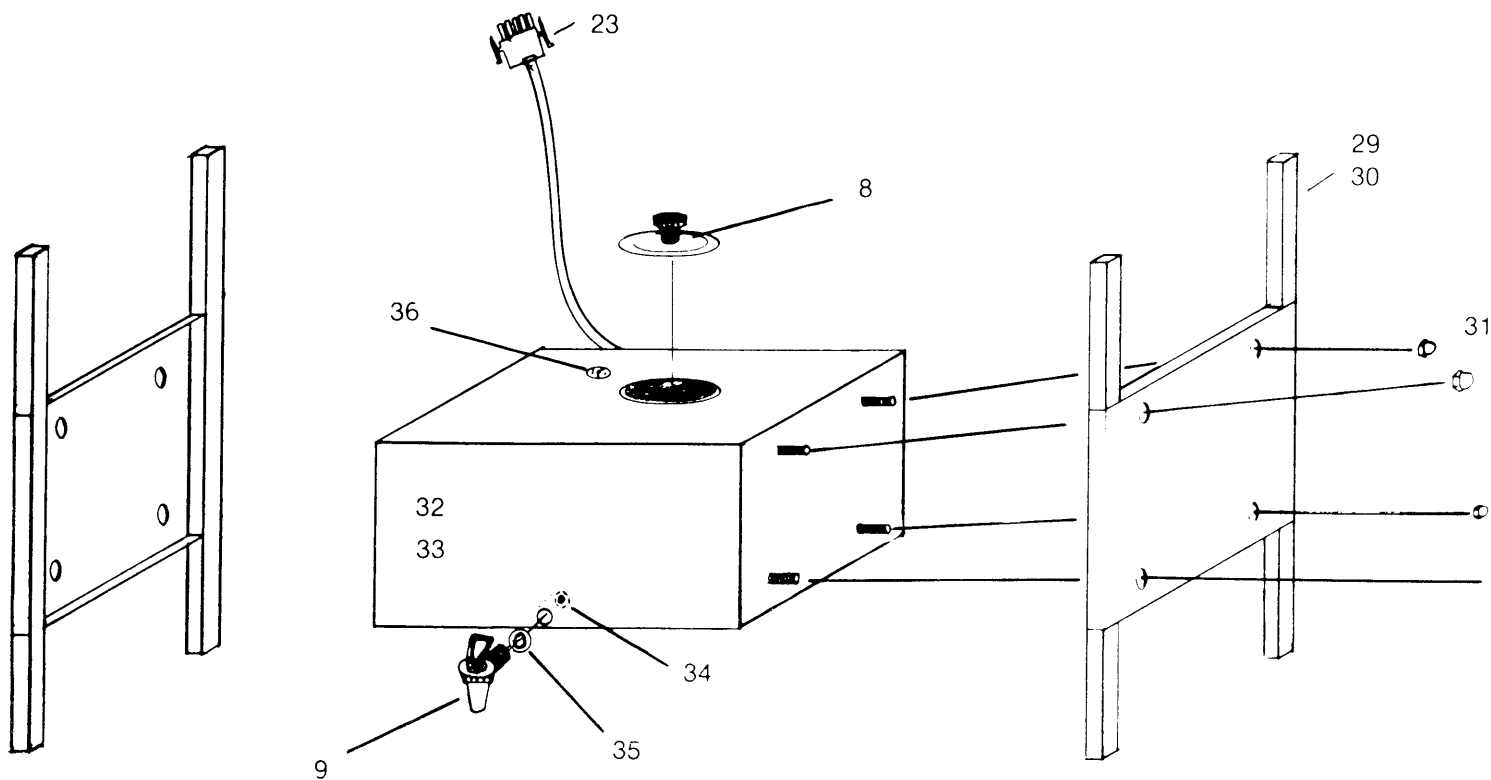

Figure 1
- 3) Install storage tank drain faucet (Fig 1). Turn unit back in upright position. Install the drain faucet using the following procedure: